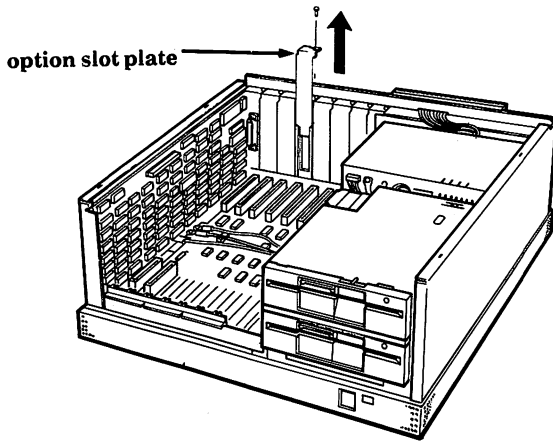

Figure 2-3. Location for coax option board.
7. Remove the screw and the option slot plate and set them aside. See Fig. 2-3.